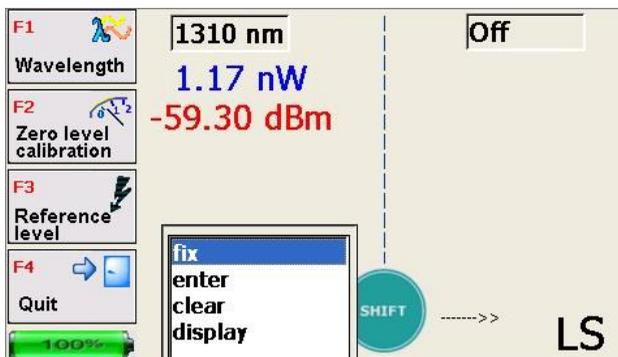

Figure 8.2
To pass the mode of measuring the relative power values it is necessary to enter basic levels by pressing the button **[F3 Reference level]** - the menu shown in Figure 8.2 appears.
If you choose the line “**Fix**” in the window shown in Figure 8.2, the current power level at this wave length is then fixed as the basic.
Choose the line “**enter**” in the window shown in Figure 8.2 results in activation of the window shown in Figure 8.3 where you can enter the required value of the basic level.
If the line “**Show**” is chosen in the window shown in Figure 8.2, the level value saved for this wavelength in the KI 6700’s memory is then shown as the basic.
8.2.8 In order to escape from the mode of relative power levels measurement choose the line “**Clear**” in the window shown in Figure 8.2.